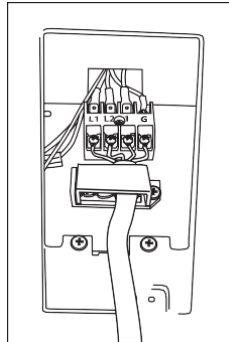

Figure 17. Fasten the cable pull relief.
3. Make sure you fasten the cable pull relief (see Figure 17).